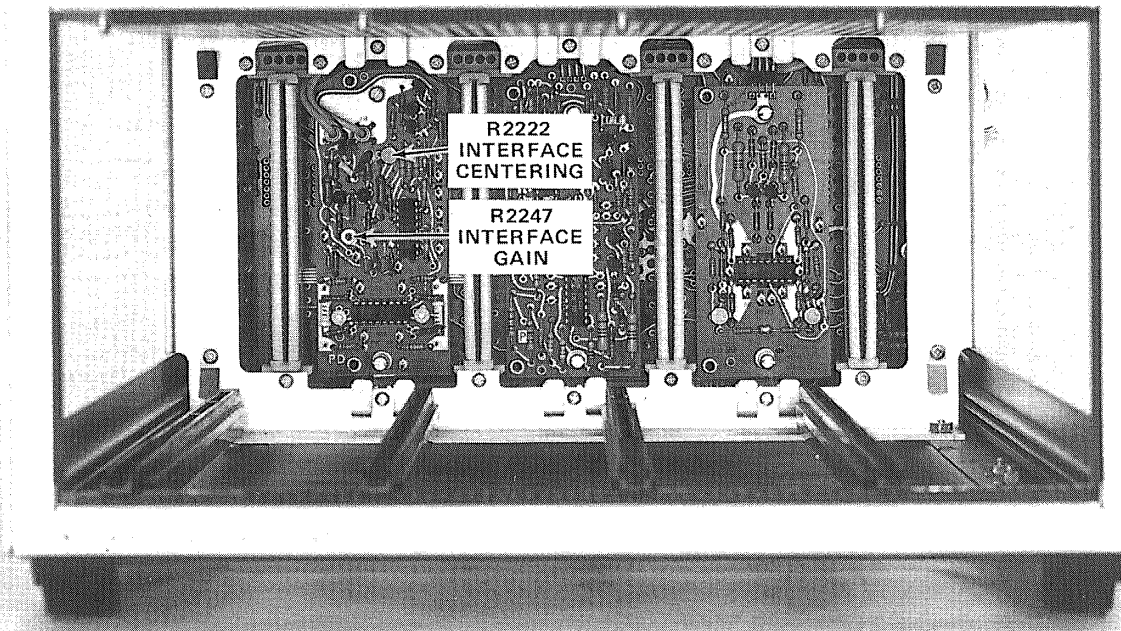

Fig. 3-4. Location of adjustments on A22, Vertical Interface board.
h. ADJUST—Interface Centering adjustment R2222 (see Fig. 3-4) for a display DC level within 0.2 division (10 millivolts) of the zero-volt reference level in the LEFT and RIGHT positions of the VERTICAL MODE switch.
l. ADJUST—Interface Gain adjustment R2247 (see Fig. 3-4) for a test-oscilloscope display of nine traces with six divisions ± 0.9 division deflection between the second and eighth traces (300 millivolts within 45 millivolts).